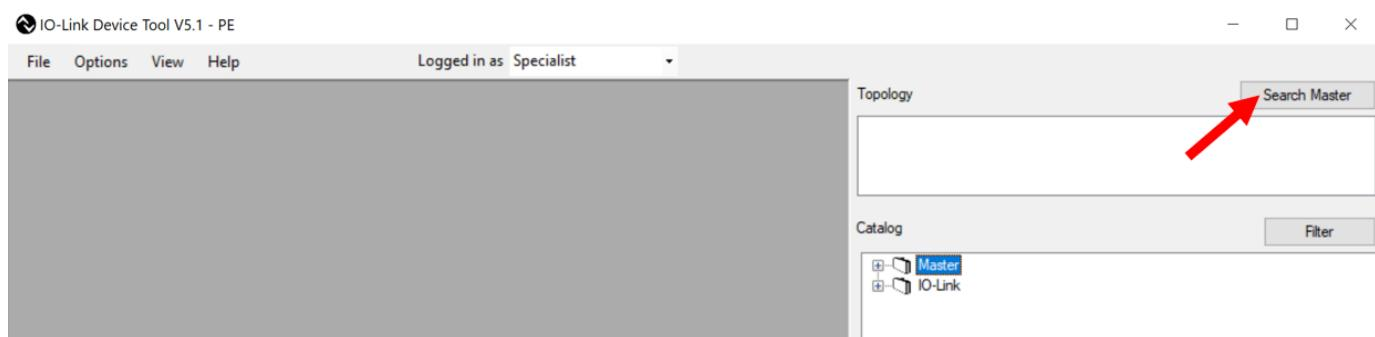

Figure 3. Search Master
- a. Click on ‘Search Master’ in the main ‘IO-Link Device Tool VS5.1 – xE’ window, see Figure 3. The ‘Master Discovery’ window pops-up.